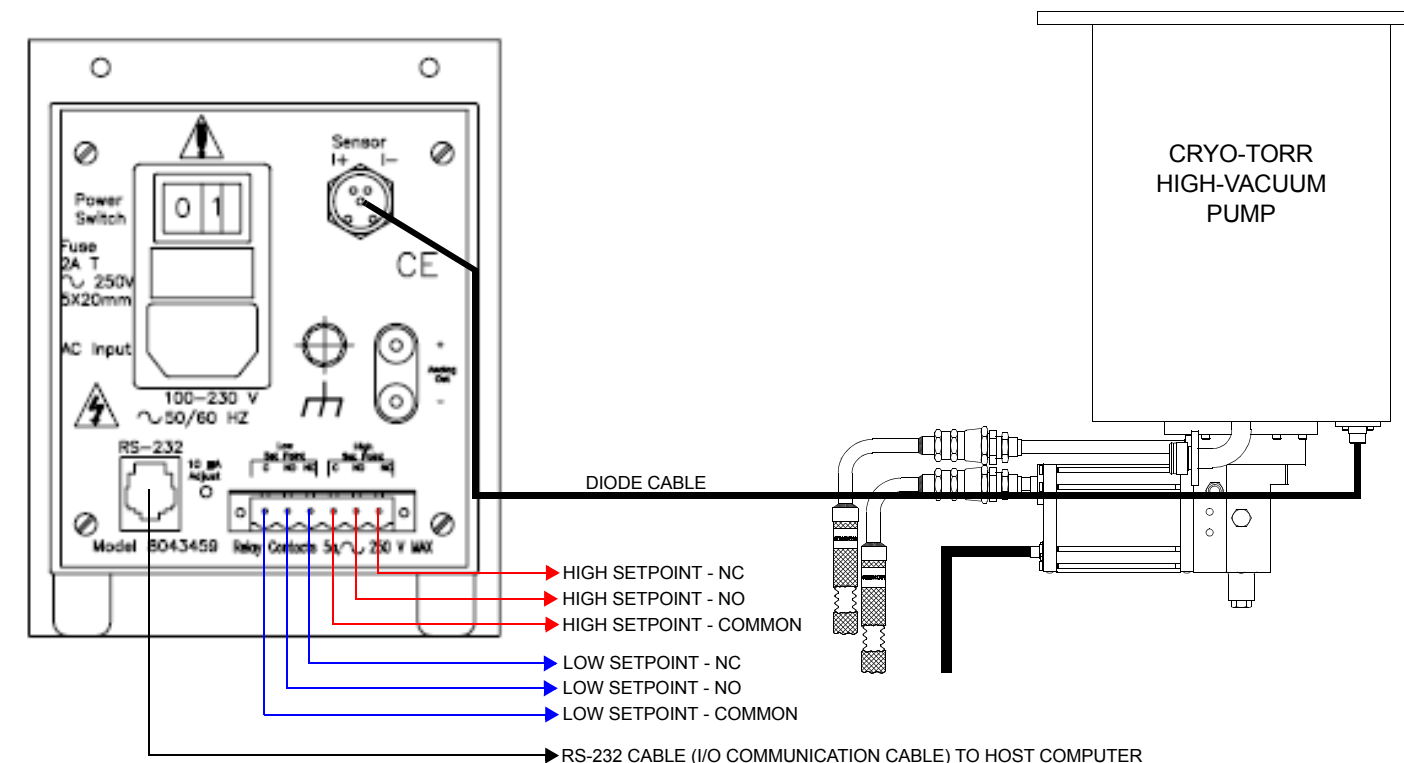

Figure 1: Temperature Indicator Connections
2. Refer to *Figure 1* and make the following connections: